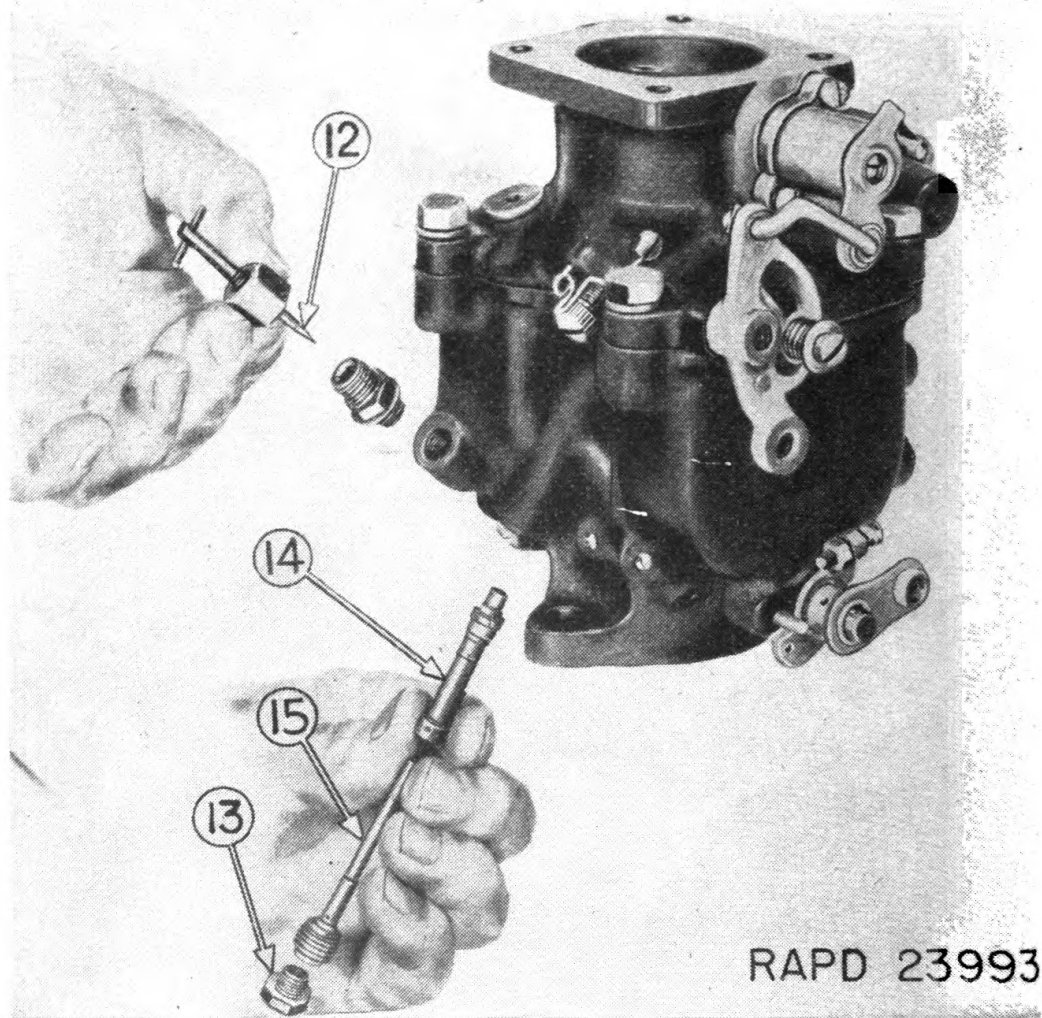

FIGURE 84.—Starting engine carburetor—idle jet and main jet.
80. Main or high speed jet.—Remove main jet adjustment screw. If screw (12) (fig. 84) is worn near the tip, replace with a new one as this screw regulates the fuel flow at speeds above idling. The amount of fuel is reduced by turning the screw clockwise.
a. The main jet assembly may be removed by taking out plug (13) and screwing the assembly out. This jet assembly is nonadjustable.